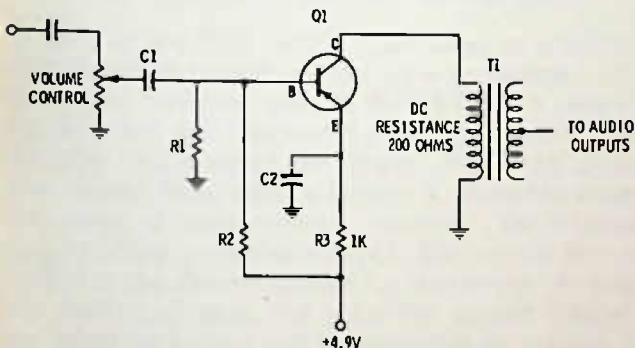

Fig. 15-14. Circuit for Questions 24, 25, and 26.
24. In Fig. 15-14, which way should capacitors C1 and C2 be connected? Use answers given in Question 23.
25. In Fig. 15-14, if you have no audio and you check the collector voltage of Q1 and find it to be nearly 5 volts, you would suspect
26. In Fig. 15-14, suppose the transistor is a germanium type, and it draws about 1 mA of current. If you measured the base voltage to ground, you would expect to read about